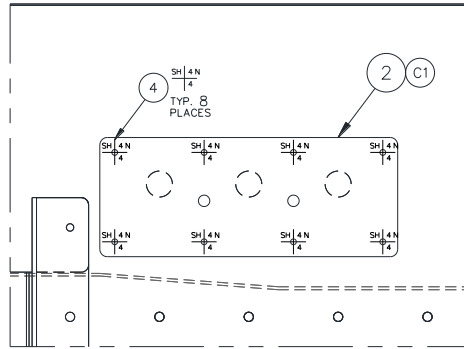

Figure 5: View looking aft at the forward face of the firewall.
- As per Figure 5, wet assemble Item 2 with Item C1 (or Item C2 if C1 is unavailable) using eight of Item 4. Ideally, Item 4 is to be installed with the head of the rivet on the forward face of the Firewall, however, if access is not possible, the rivet may be installed in reverse.